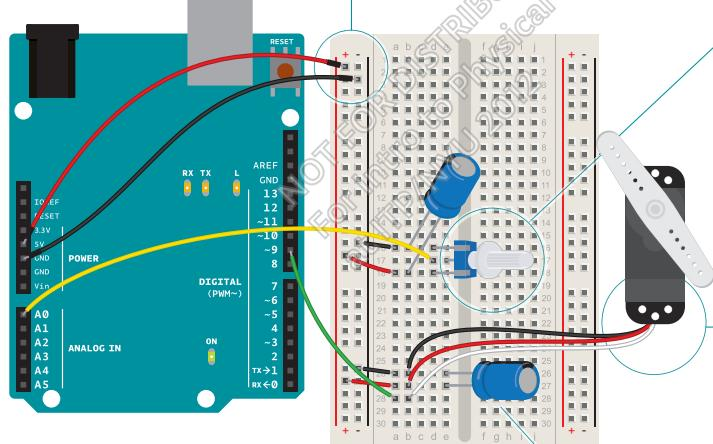

Fig. 1
- 4 When a servo motor starts to move, it draws more current than if it were already in motion. This will cause a dip in the voltage on your board. By placing a 100uf capacitor across power and ground right next to the male headers as shown in Fig. 1, you can smooth out any voltage changes that may occur. You can also place a capacitor across the power and ground going into your potentiometer. These are called **decoupling capacitors** because they reduce, or decouple, changes caused by the components from the rest of the circuit. Be very careful to make sure you are connecting the cathode to ground (that's the side with a black stripe down the side) and the anode to power. If you put the capacitors in backwards, they can explode.